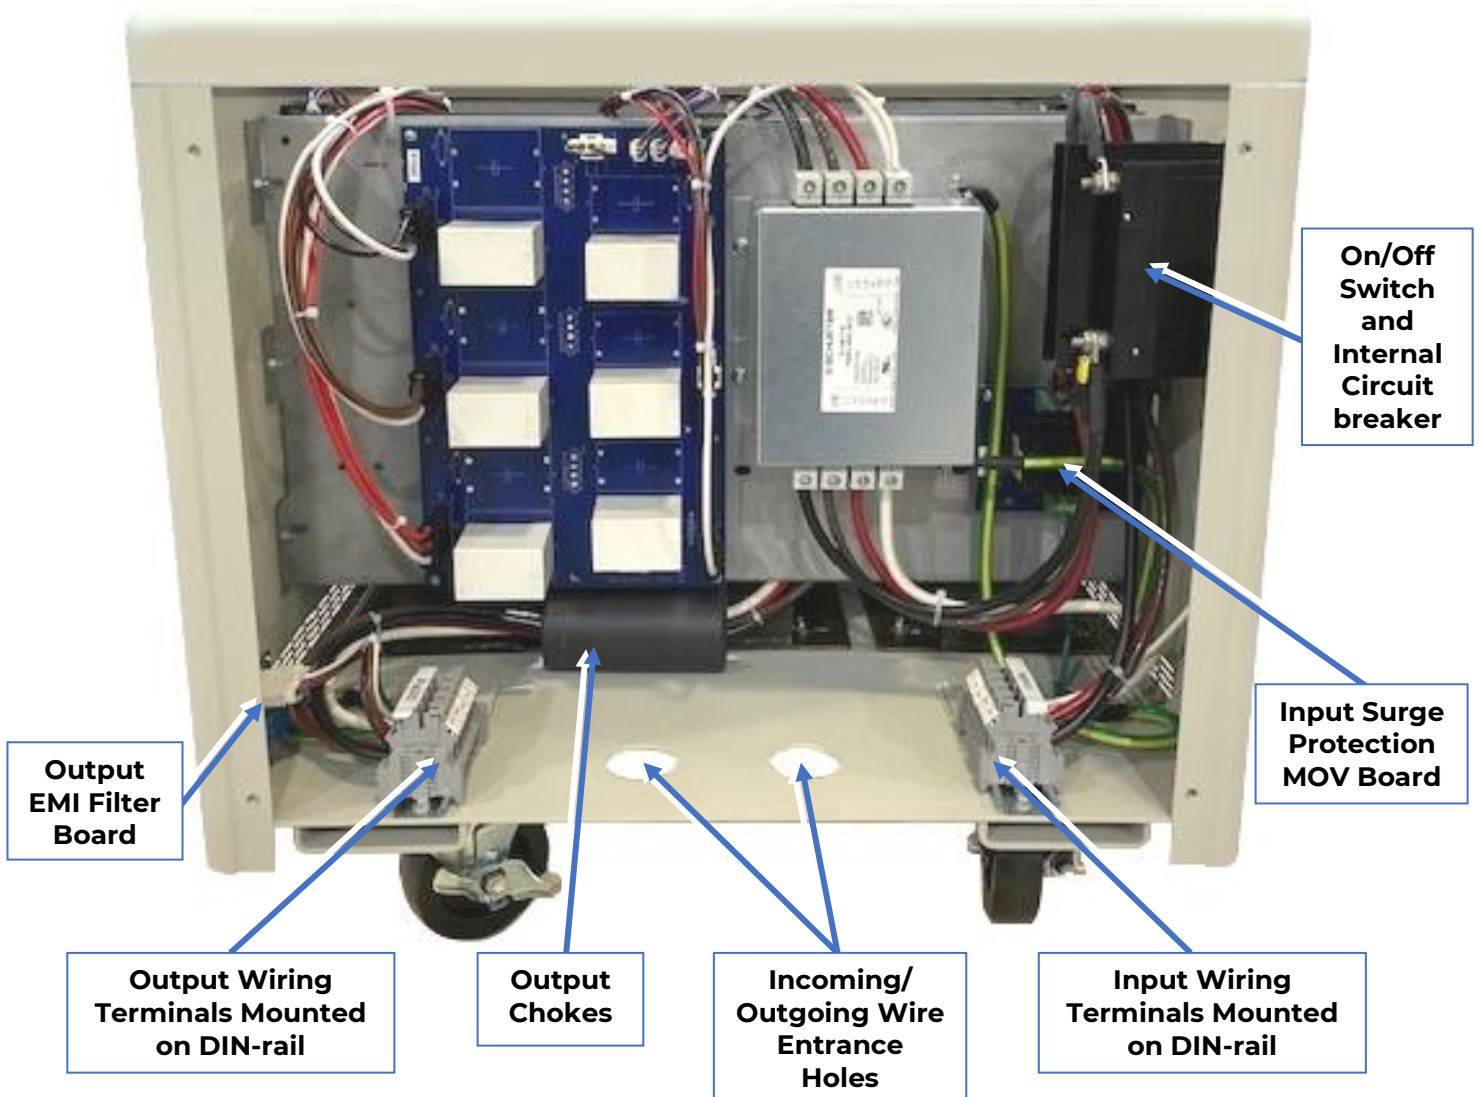
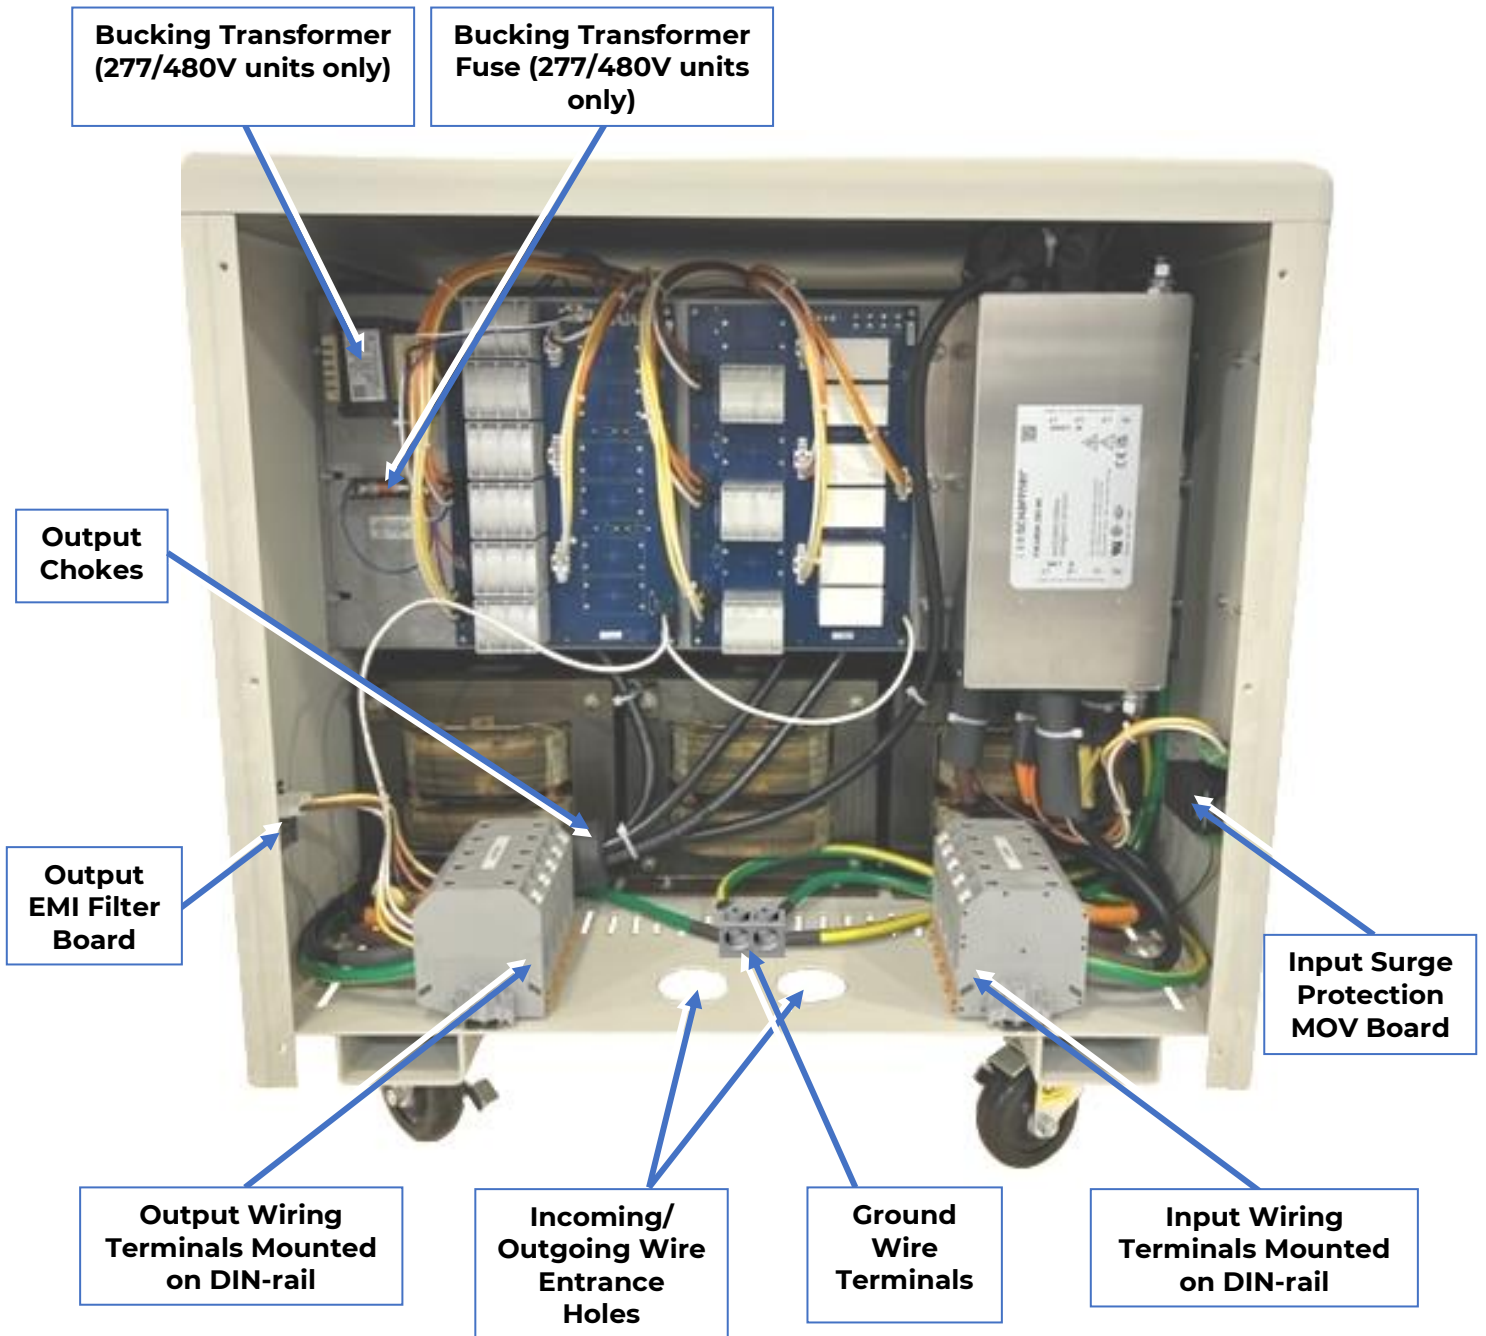

Figure 6: Large Series (24in. Cube) VRP Shown With Wiring Access Cover Removed
Figure 7: XLarge Series (32in. Cube) VRP Shown With Wiring Access Cover Removed
3.5.3 The VRP’s power entry is through two circular holes in the bottom of the unit (see Figure 6 or Figure 7). Remove the hardwire terminal access panel located at the side near the TSI logo and ratings labels (see Figure 1, page 5), save the hardware before proceeding.